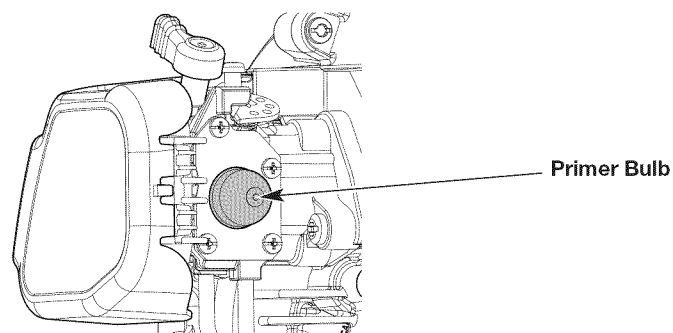

Fig. 5
3. Slowly press and release the primer bulb **10 times** (Fig. 5). If fuel cannot be seen in the primer bulb, press and release the primer bulb until fuel is visible.